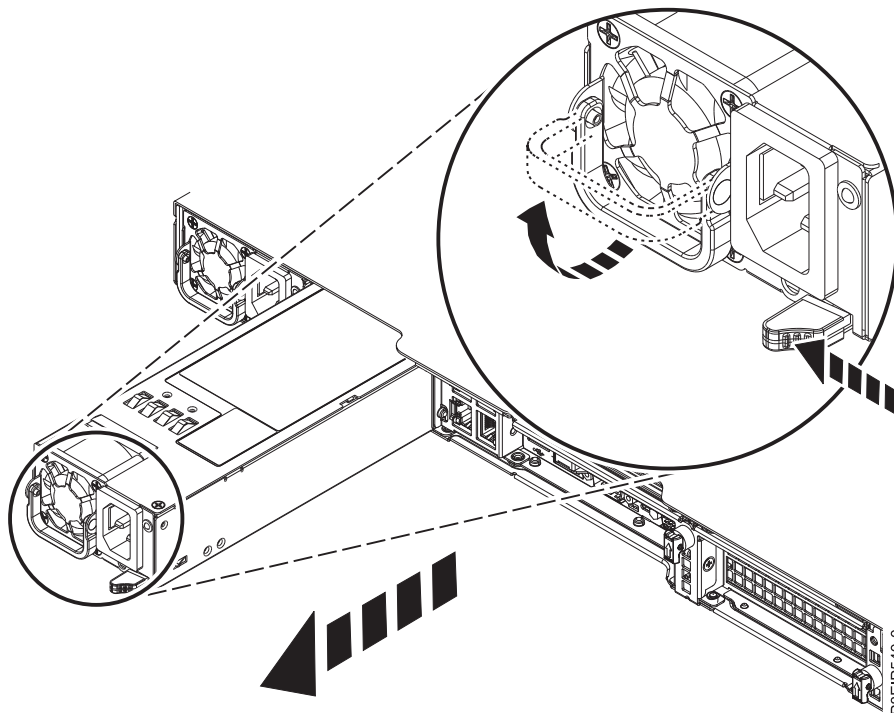

Figure 27. Removing a power supply from the system
- a. To unseat the power supply from its position in the system, push the locking-tab to the left as shown in Figure 27.